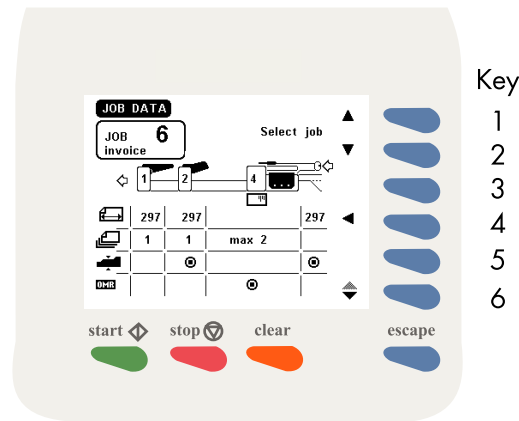

Fig. 13
When key 3 is pressed in the "job data" menu the upstream (transport) module screen is displayed (see Fig. 13). The screen shows the following functions:
- select a higher job number (key 1).
- select a lower job number (key 2).
- go back to the inserting module (key 4).
- go to next job data screen of the upstream (transport) module (key 6).